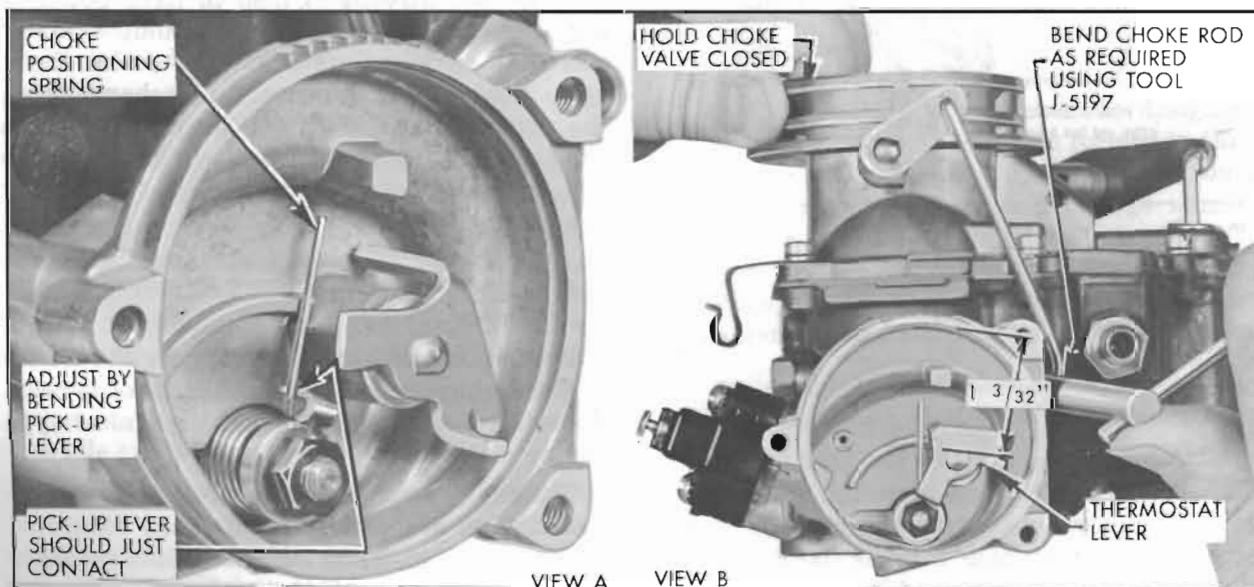

Figure 3-65—Choke Pick-Up Lever and Thermostat Lever Adjustments
3. At this throttle position, the choke positioning spring pick-up lever should just contact the choke positioning spring. If lever is not just at the point of contact, adjust by bending lever with needle-nose pliers. See Figure 3-65, View A. Remove throttle stop screw.
4. With choke valve held fully closed, distance from upper thermostat cover hole to top of thermostat lever must be  $1\frac{3}{32}$ ". If adjustment is necessary, bend choke rod using Tool J-5197 as shown. See Figure 3-65, View B.